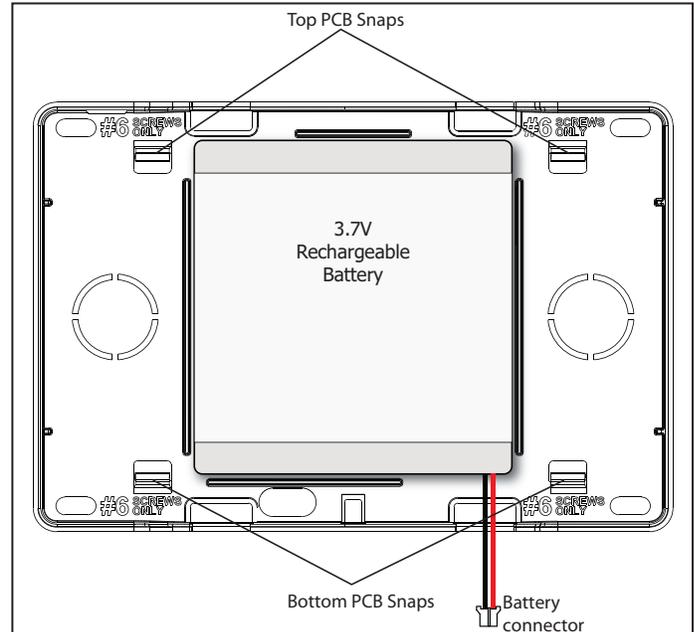

Figure 4: Standby Battery Replacement
6. Place the new battery into the XTLN-WiFi housing base with the battery wires directed toward the bottom right corner. See Figure 4.